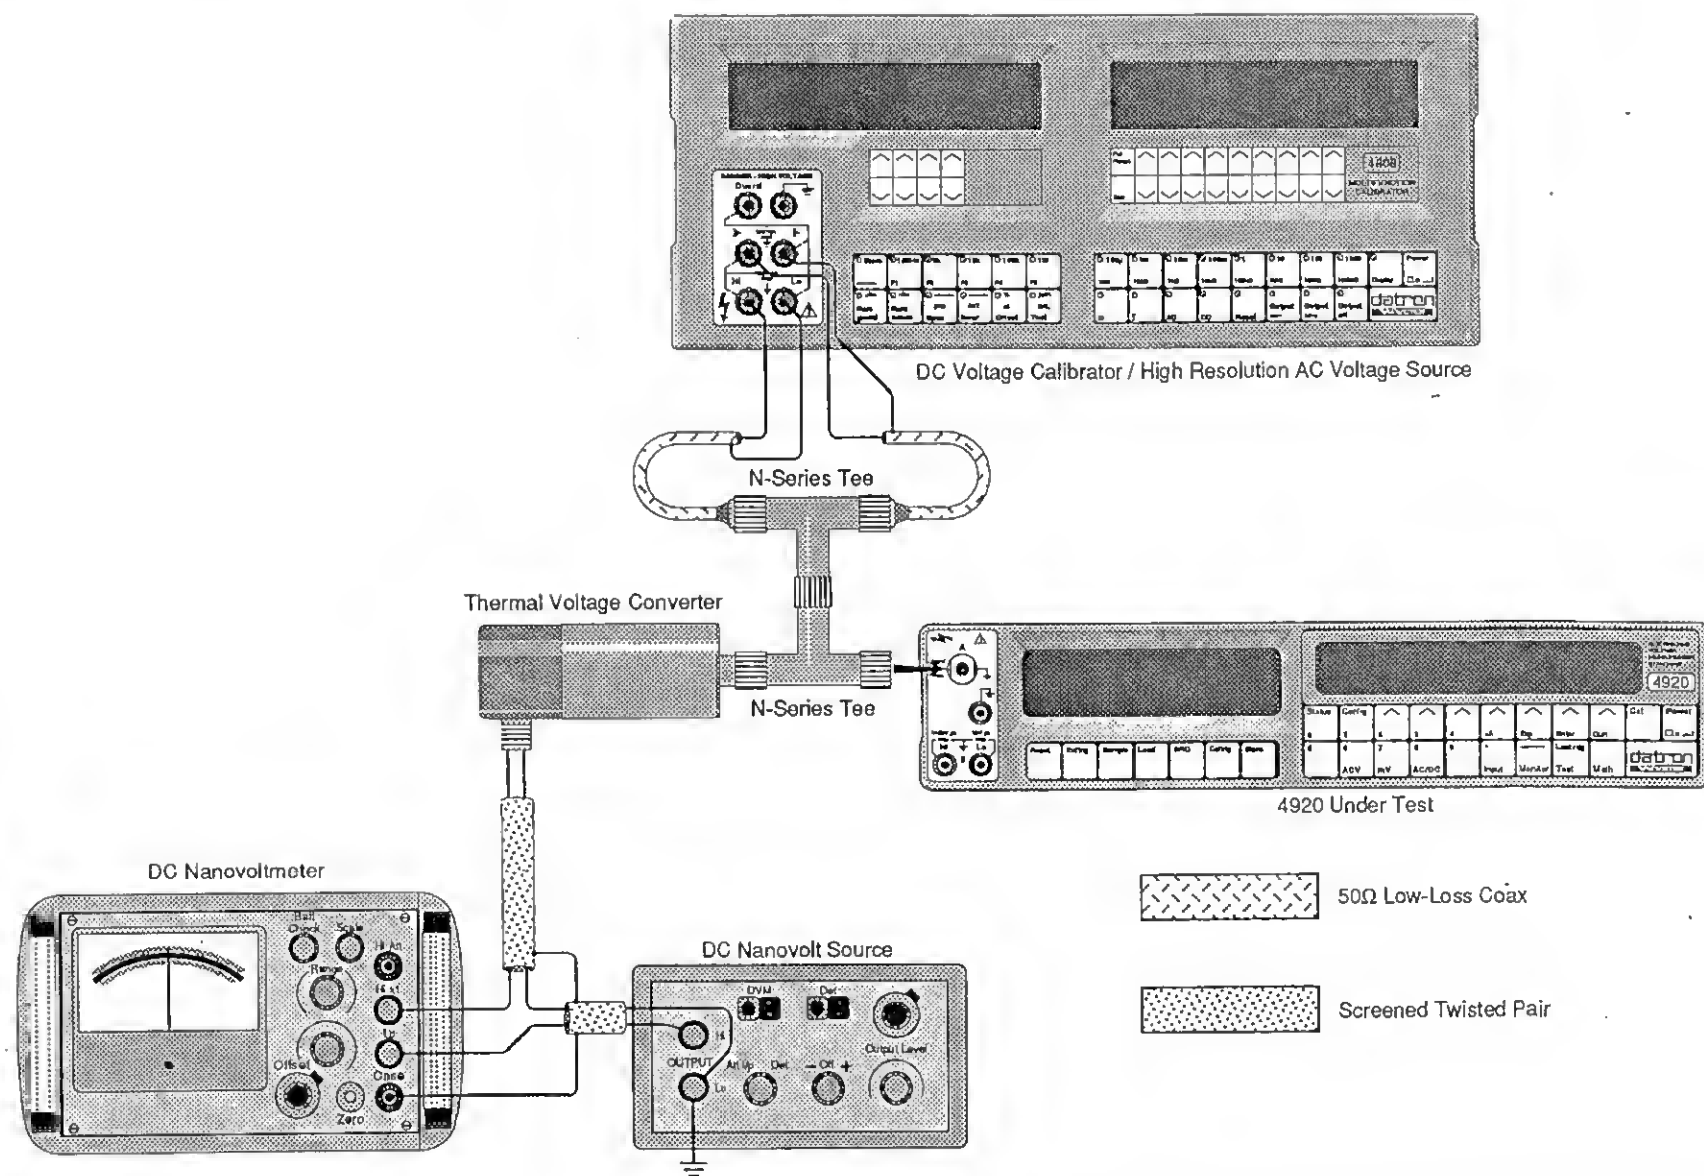

FIG. 8.2 ACV CALIBRATION - INTERCONNECTIONS
2. Connect the DC voltage calibrator into the calibration setup as shown in Figure 8.2 and select the 4920's ACV function.
2. Connect the DC voltage calibrator into the calibration setup as shown in Figure 8.2. On the 4920, select the ACV function and the range required to be spot-calibrated.